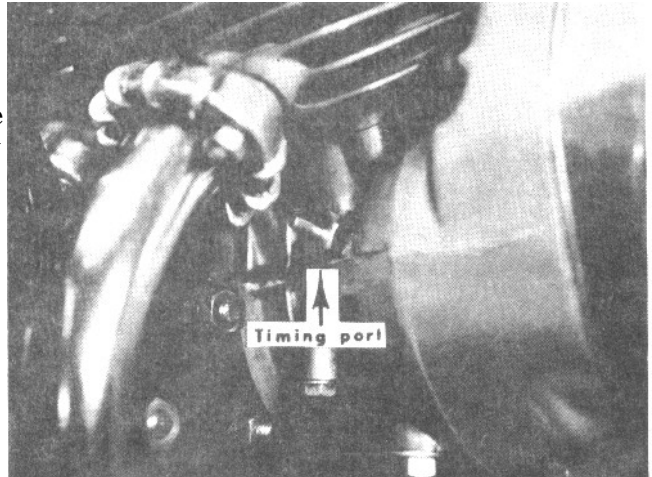

Fig. 112
5. Install timing screw and bar into timing hole at front of engine (fig. 112). This item is packed in the cycle tool kit.